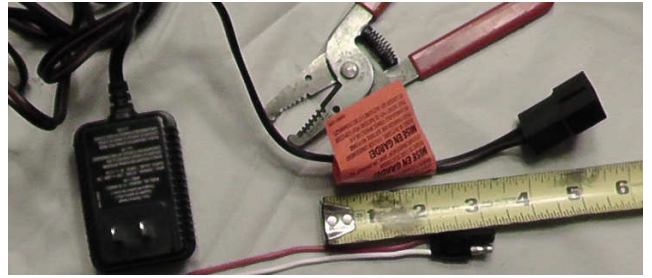

Fig. 17 Cut Charger Cable
37) Cut the Charger Cable approximately 7" from the plug. Separate the wires in the cable for about 2" on each side. Strip the ends (these wires are 16 gauge) and twist them back together. Be sure the pure black wires and black-with-red-stripe wires match up. **Fig. 17**